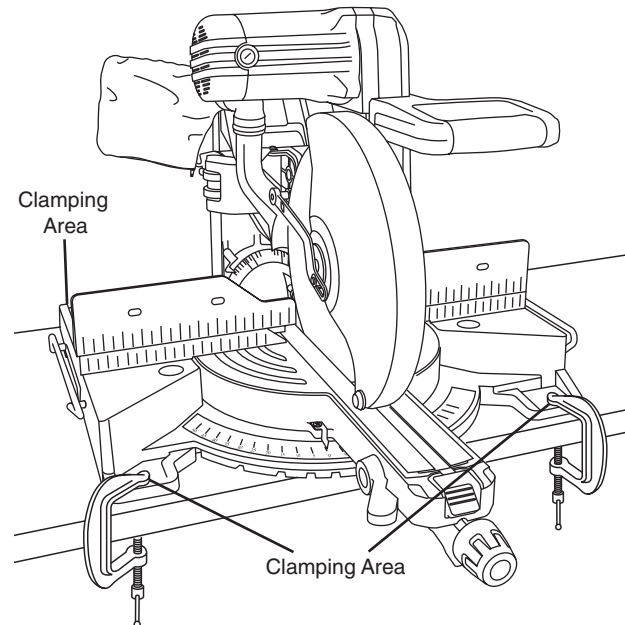

Figure 29. Temporary Mounting Using Clamps
- Place two or more “C” clamps on the clamping areas and secure (see Figure 29). There are clamping areas at all four corners of the saw.